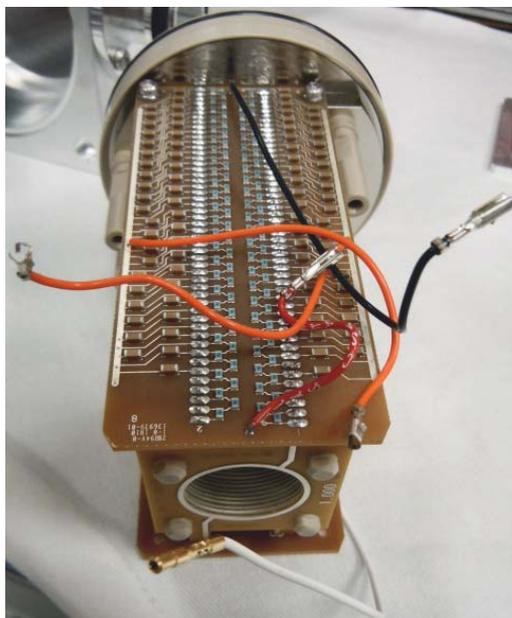

Figure 72 High pressure ion funnel on top of a clean cloth.
- 1 Put the high pressure ion funnel on the table and on top of a clean cloth. See Figure 72.